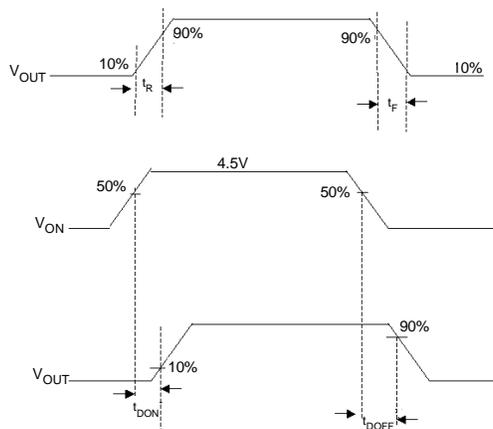

Figure 27. Timing Diagram
- $t_{DON}/t_{DOFF}/t_R/t_F$ are defined in Figure 27.